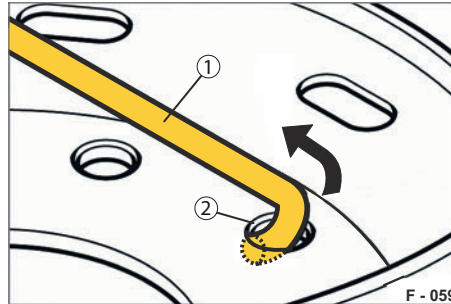

Fig. 86 Removing the hook bolt
- ▶ Pull the hook bolt (Fig. 86/1) upward through the bolt holes (Fig. 86/2) of the spare wheel.
- ▶ Lead the hook bolt (Fig. 86/1) through the pin hole (Fig. 86/2) of the spare wheel.